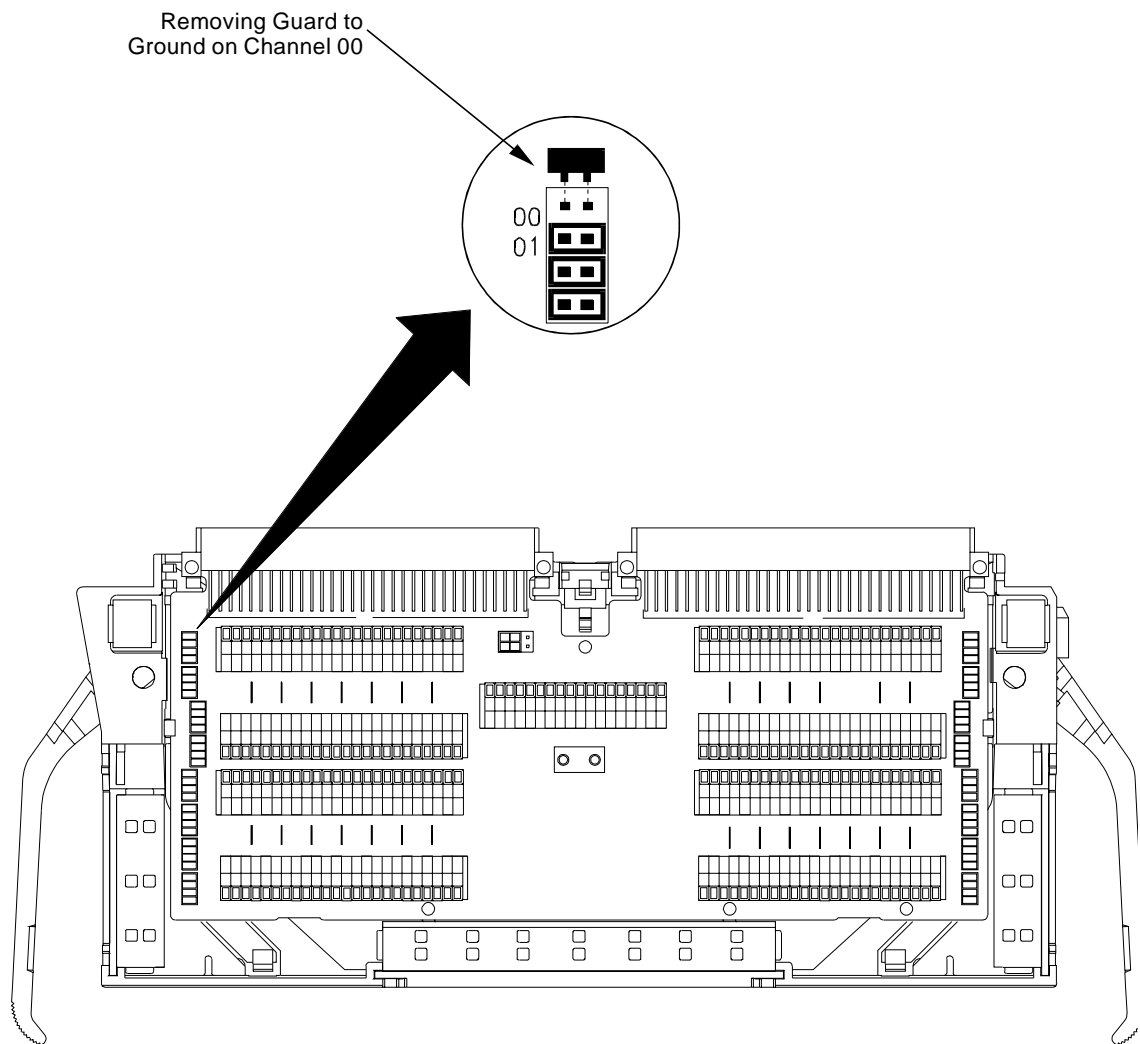

Figure 2-8. Grounding the Guard Terminals
4. The Terminal Module is shipped with the Ground-Guard (GND-GRD) shorting jumper installed for each channel. These may be left installed or removed (see Figure 2-8 to remove the jumper), dependent on the following conditions: